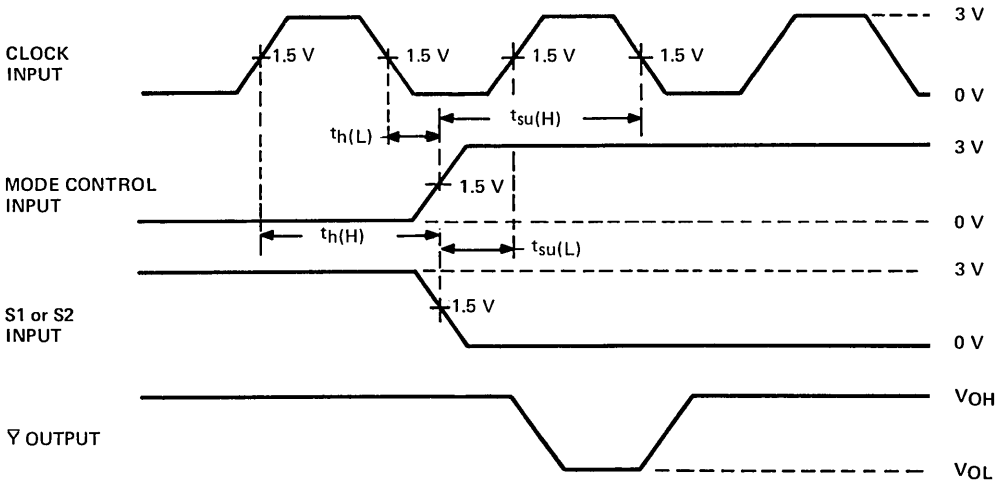

FIGURE 5—ENABLING SINGLE PULSE
After initiation, the mode control (M) input determines whether a series of pulses or only one pulse is passed. In the absence of a stop command, the clock driver will continue to pass clock pulses as long as the mode control input is low (see Figures 2 through 4). If the mode control input is high only a single clock pulse will be passed (see Figure 5).